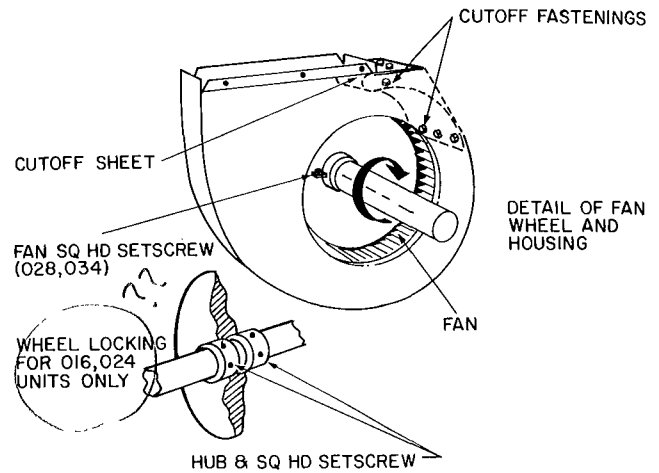

Fig. 11 — Fan Locking Detail
1. Loosen setscrews holding wheel support to shaft (Fig. 11).
1. Loosen fan wheel sq hd setscrews on each side of fan support (Fig. 11).